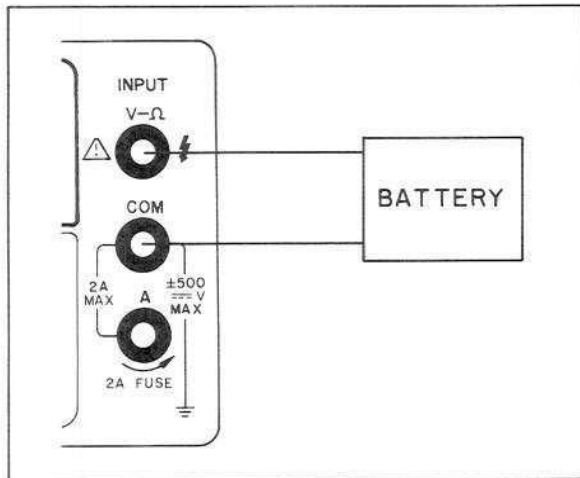

Figure 3-6. DC Voltage Measurements.
- c. Connect test leads from the Multimeter V Ω (high) and COM (low) terminals to the voltage under test as shown in Figure 3-6.